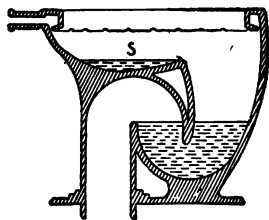

FIG. 345.—WASH OUT CLOSET
**356. Wash Out Closet.** In this form of closet (Fig. 345) there is added a shelf *s* in which there is water when the closet is not in use. The trap is of the same form as in the short hopper closet, but instead of being separate from the closet proper, it is a part of it, so that the whole closet is of one piece.